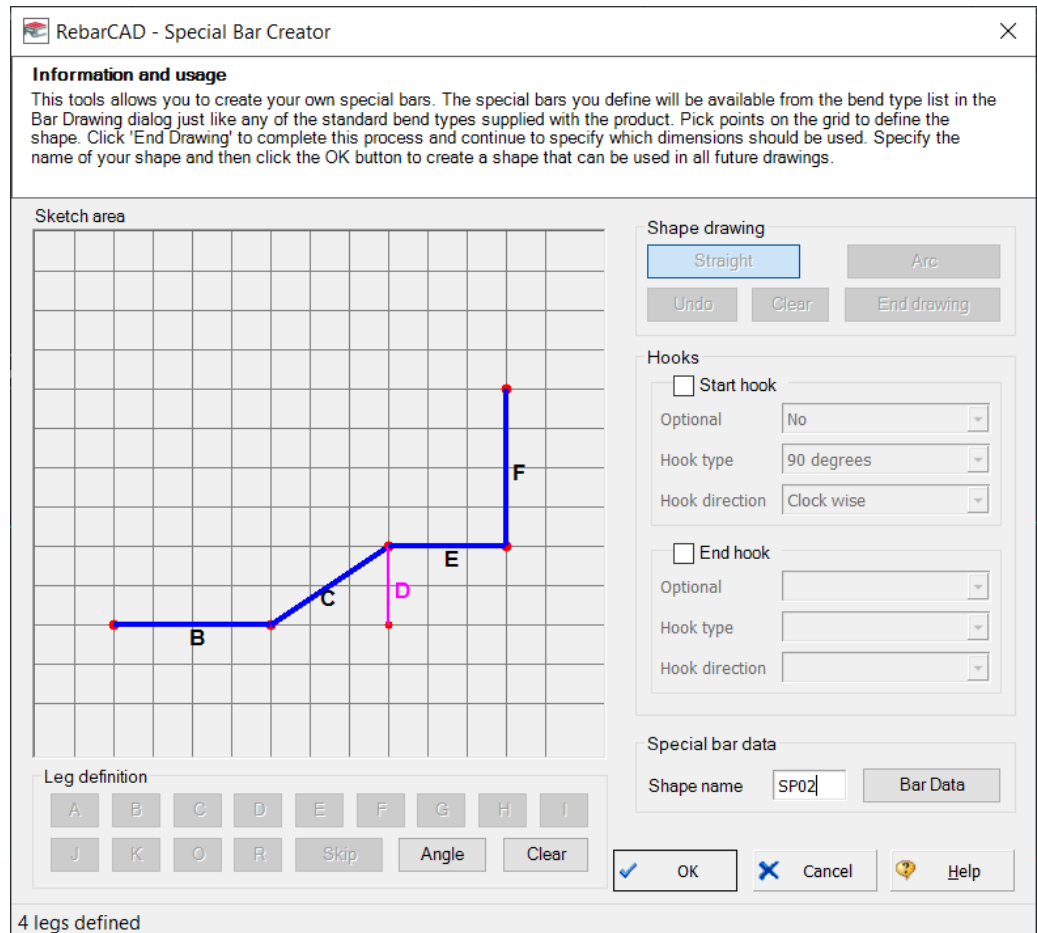

Figure 4.6.2:1 The Special Bar Creator window
- ▶ Pick points on the grid, as shown in figure 4.6.2:1 below, to specify the bar legs
- ▶ Individual legs will be shown in green. Select the Dimension Letter as per figure 4.6.2:1. Skip assigning a letter to the Horizontal Crank Dimension